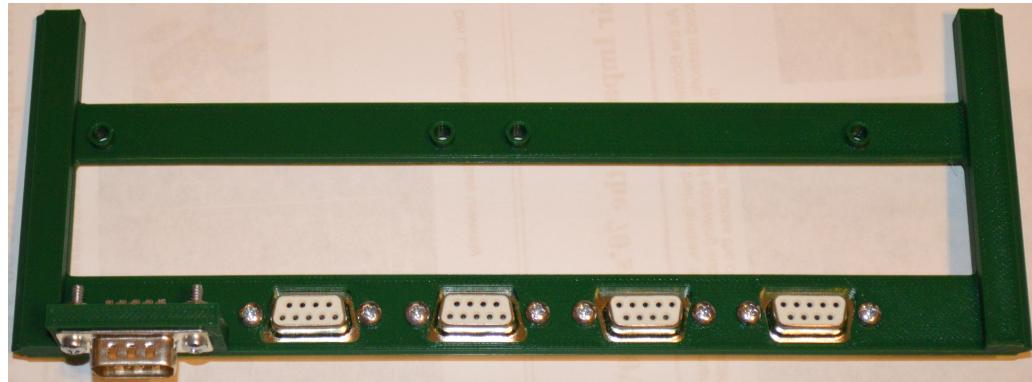

Figure 2.3: Panel I/O Tray with Connectors
- Attach the connectors to the tray (see Figure 2.3).